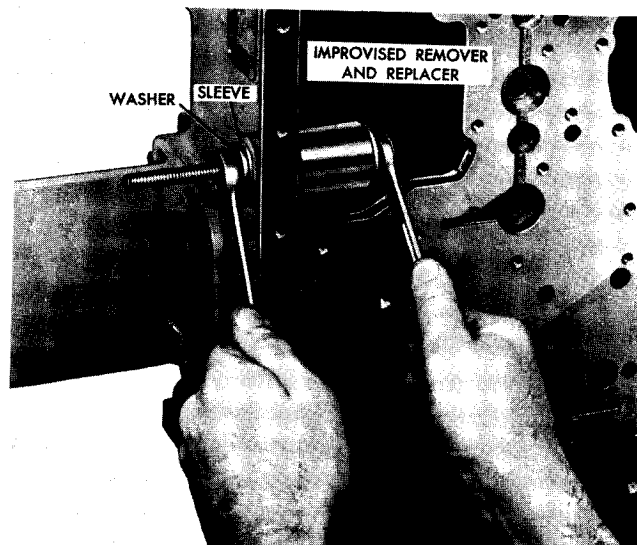

Fig. XIII-2 Installing shift lever sleeve
(1) If the transmission shift lever sleeve 51 was removed, install a new one as outlined below.
(2) Using an improvised sleeve remover and replacer, install the shift lever sleeve into the transmission housing (fig. XIII-2).